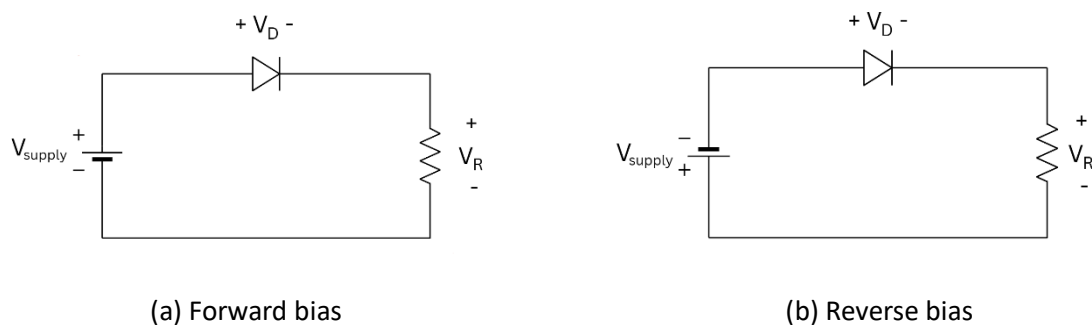

Fig. 1.4 Diode Circuits
1. Build a forward biased diode circuit as shown in Fig.1.4(a).
4. Build a reverse biased diode circuit as shown in Fig.1.4(b).